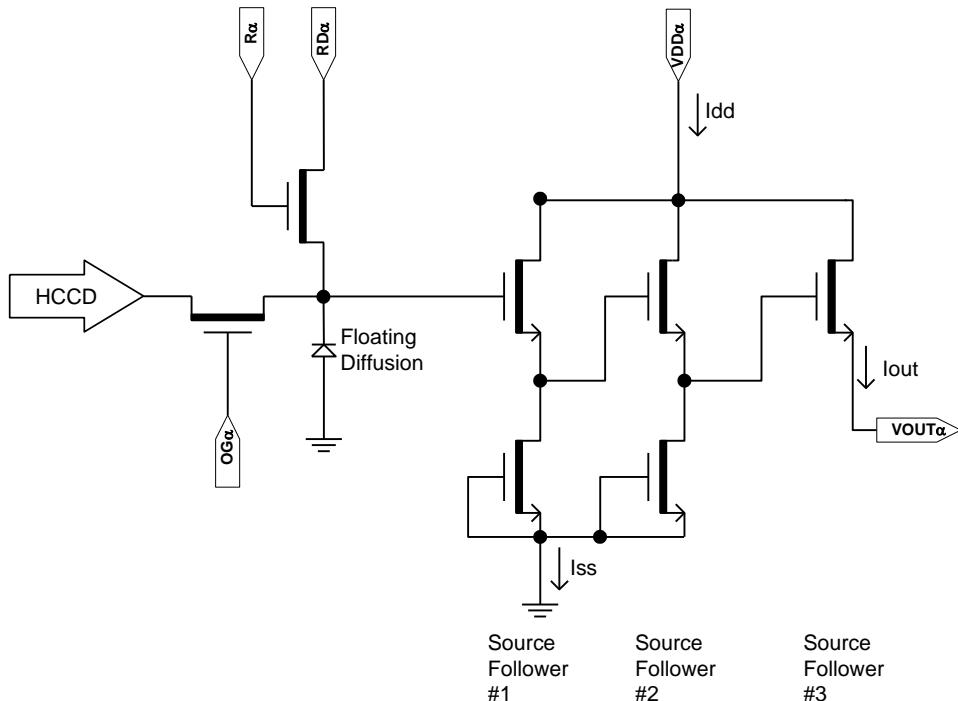

Figure 14: Output Amplifier
2. The maximum DC current is for one output. $I_{dd} = I_{out} + I_{ss}$. See Figure 14.